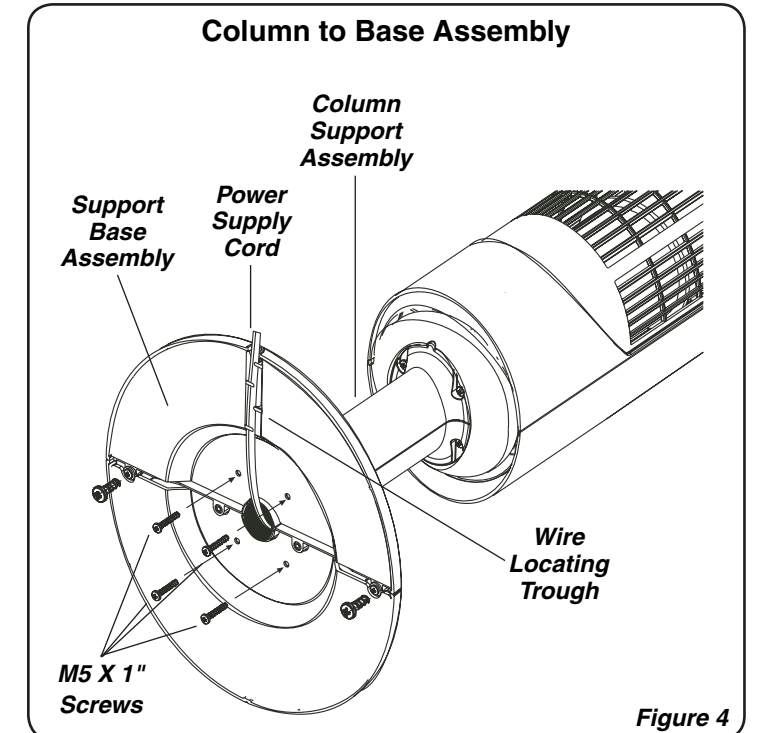

Figure 4
- Align the **Support Base Assembly** with the **Column Support Assembly**, noting that the cord channel on the bottom of the support base should be towards the back of the Fan. Assemble the **Support Base Assembly** to the **Column Support Assembly** with (4) 1" Long **M5 Screws**. Gently pull any excess slack of the **Power Supply Cord** and place it in the **Wire Locating Trough**. (Figure 4)